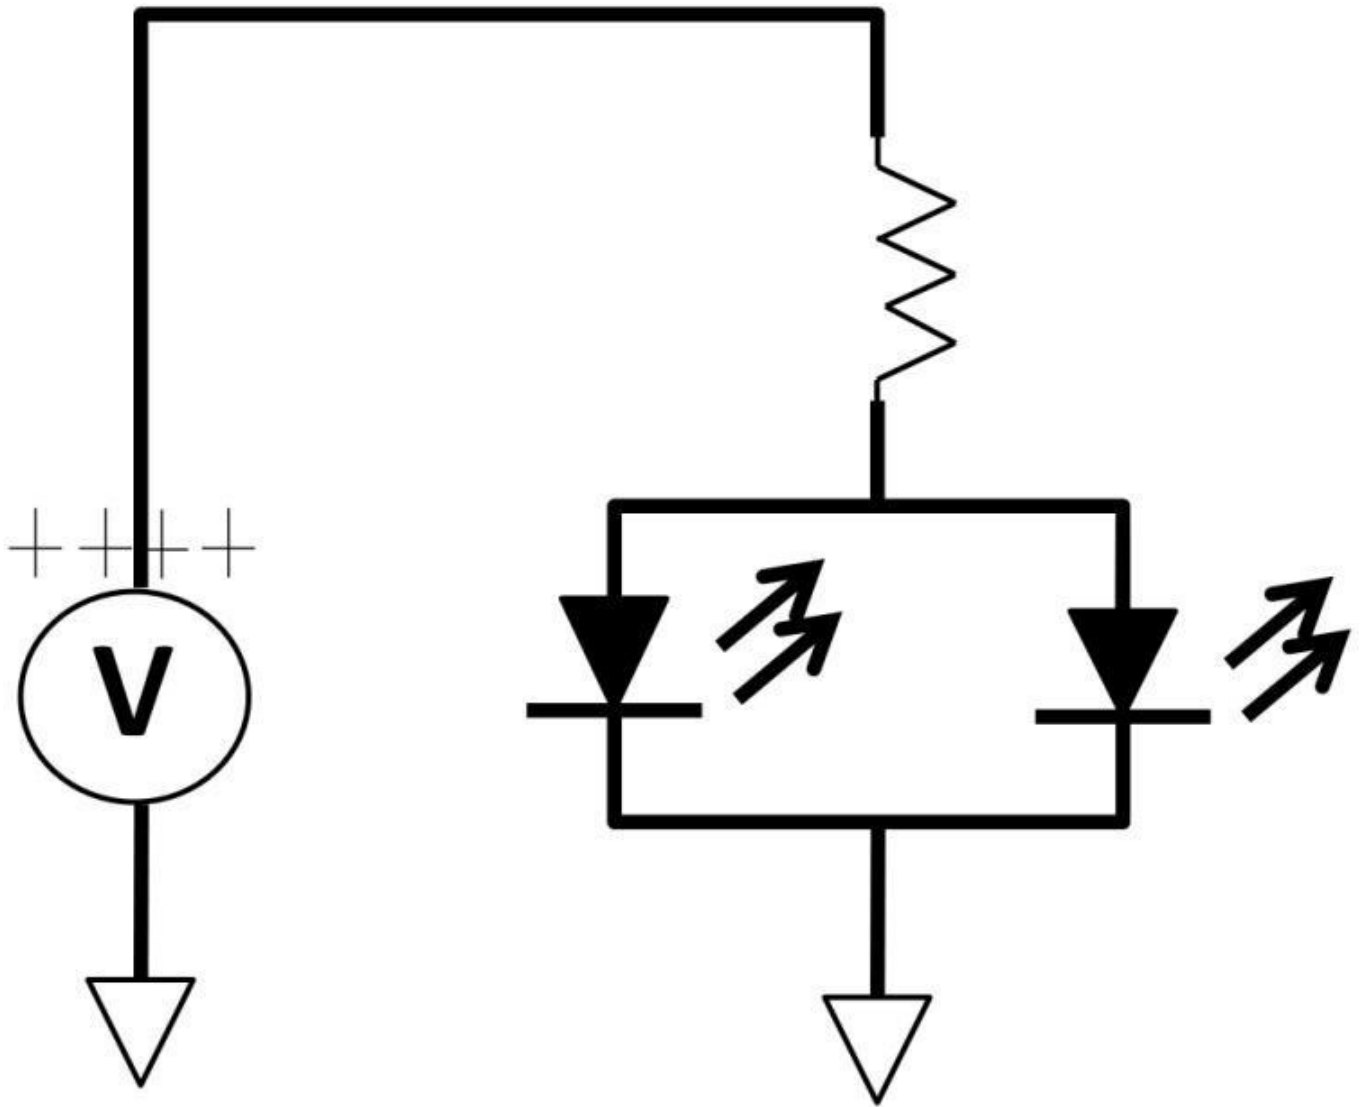

Figure 2.7: LEDs in parallel
3) Another common LED application is constructed in parallel configuration (see figure 2.7). From chapter 1, DC, it is easily recognized that the trade-off between a series and a parallel LED application is that a series LED circuit requires higher voltage than the parallel one. A parallel circuit draws more current due to multiple LED branches as a result of the KCL rule.